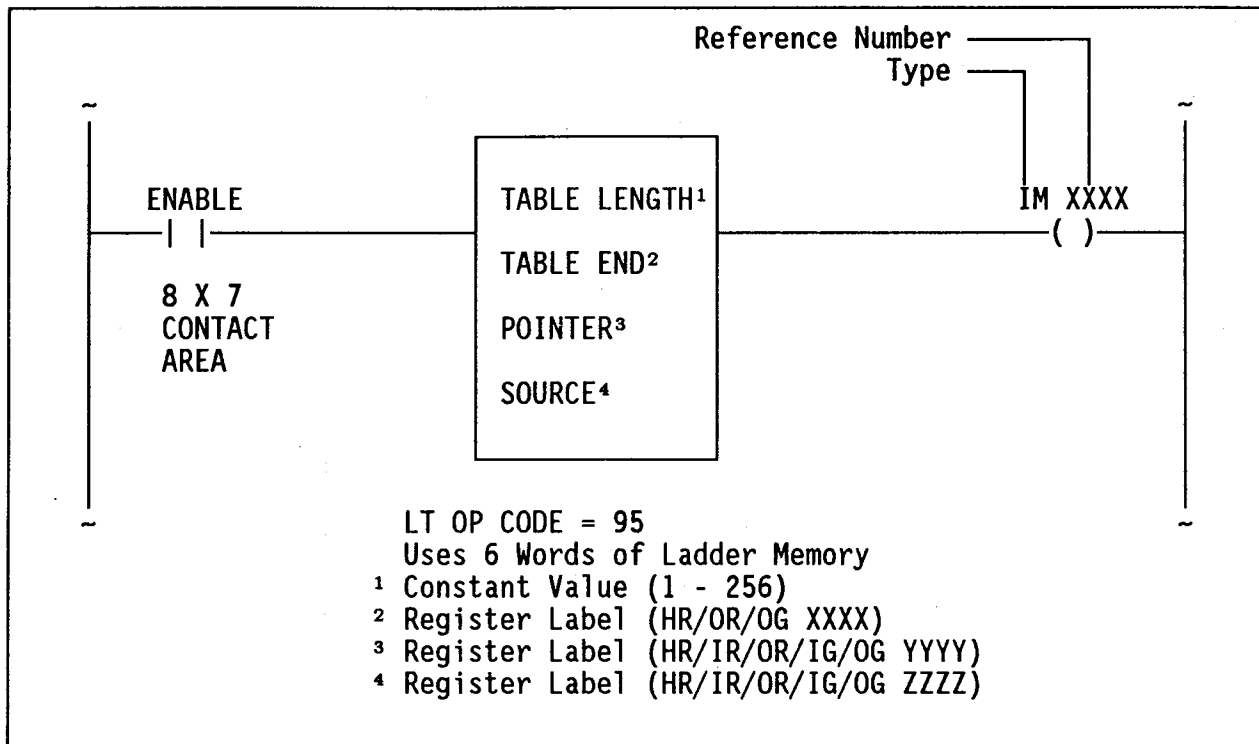

Figure 1. Indirect Move Function Concept
The Indirect Move (IM) function allows the contents of the source register to be duplicated in locations in a pre-defined table of registers with the relative location being determined by the contents of a pointer location. Figure 1 illustrates the concepts and symbols related to the Indirect Move function. The operation of the function is depicted in a simplified fashion in Table 1. When studying the Table, assume the following: